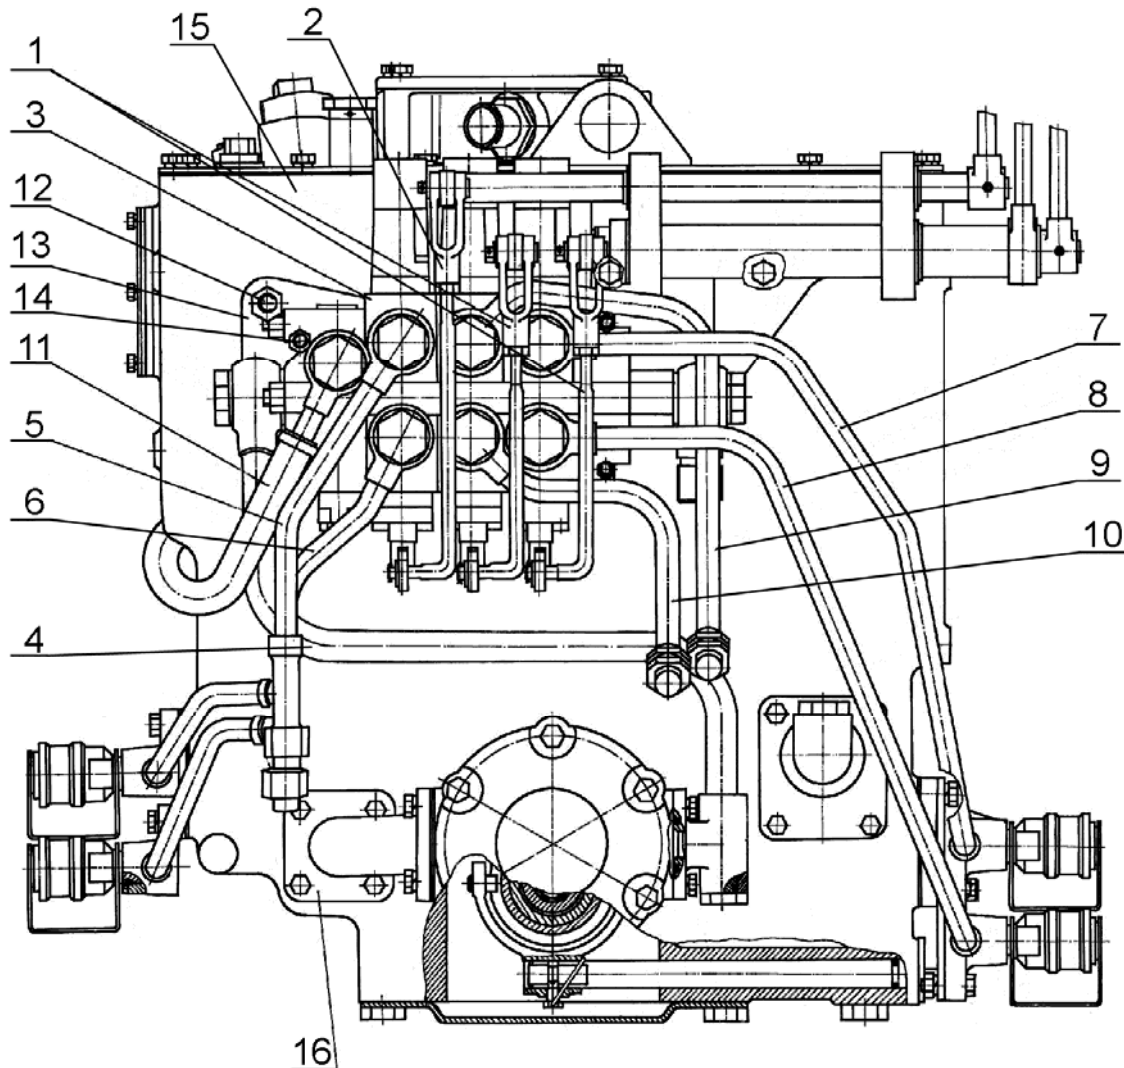

Figure 9.9
a) disconnect control tie-rods 1, 2 from distributor 3 (Figure 9.9);
b) disconnect from distributor (3) pressure oil line (4), oil lines of outlets 5, 6, 7, 8, 9, 10, drain oil line 11;